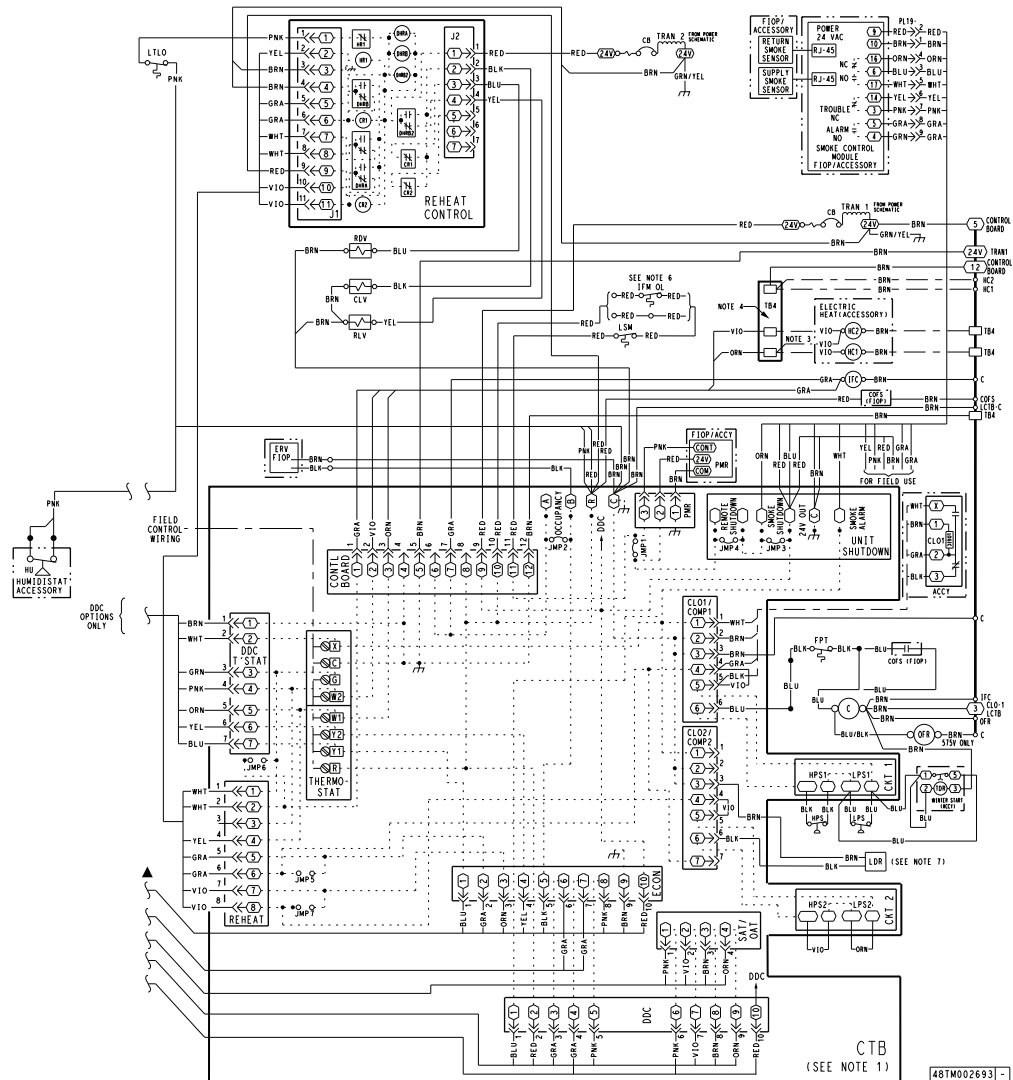

Fig. 33 — Typical Humidistat Wiring for Hot Gas Re-Heat Dehumidification System
3. Use wire nuts to connect humidistat cable to two PINK leads in the low-voltage wiring as shown in Fig. 33. Refer to the instructions for the field-supplied humidistat for more information.